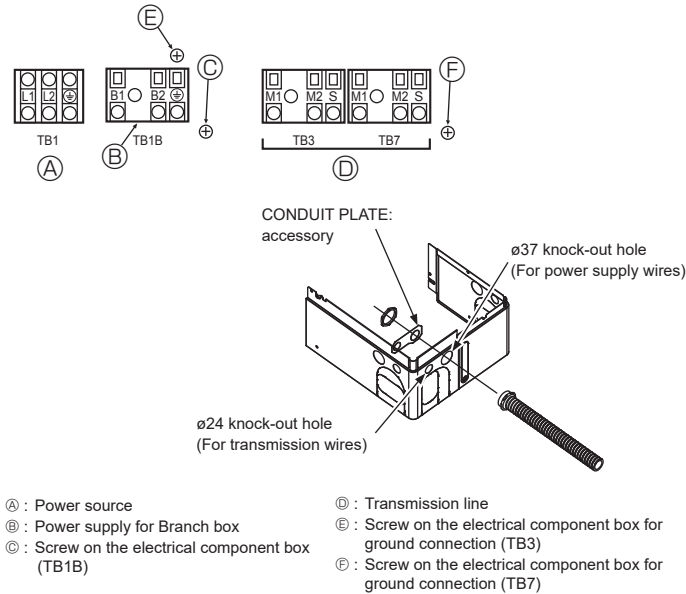

Fig. 6-1
- ⑩ Before turning outdoor unit on, be sure to turn the indoor units and the Branch boxes on.
6.2. Control box and connecting position of wiring (Fig. 6-1)